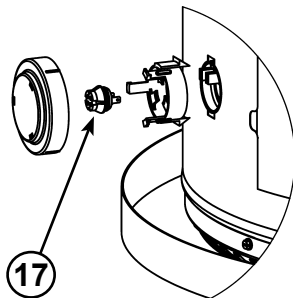

Figure 60.
17. Flammable Vapor Sensor (under cover) (see Figure 60)